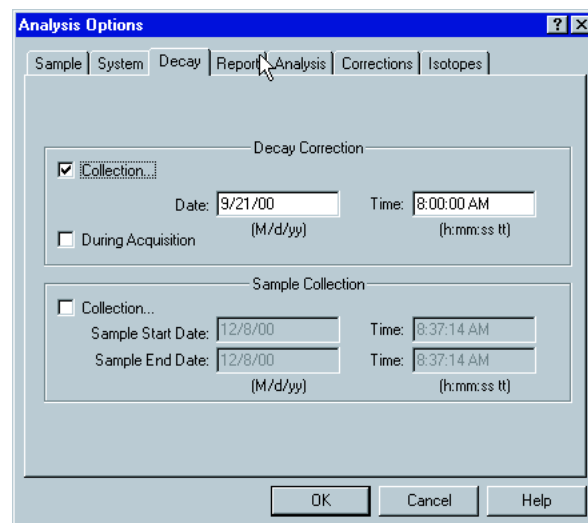

Fig. 38
2.12 Click the **Decay** tab and complete the form as follows (Fig. 38 can be used as a guide):